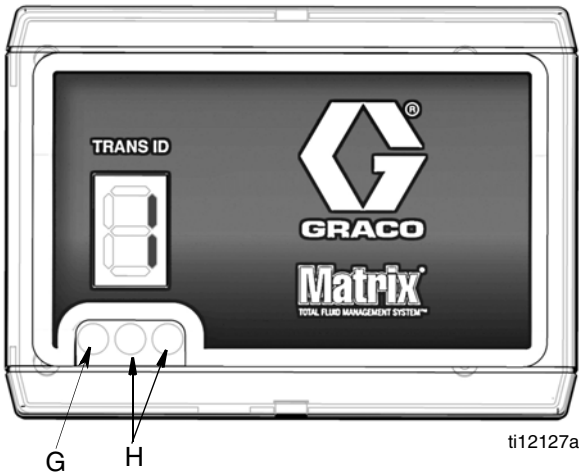

FIG. 7
- The green power light (G) will illuminate indicating the Transceiver is on. See FIG. 7.